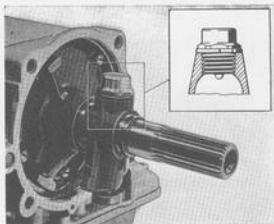

Fig. 4-111. Governor and driven shaft
5. Push the governor onto the shaft as shown in Fig. 4-111. Make sure that the bolt enters the recess in the shaft. Tighten the bolt to a torque of 20—25 Nm (15—18 lbft). This torque must not be exceeded.